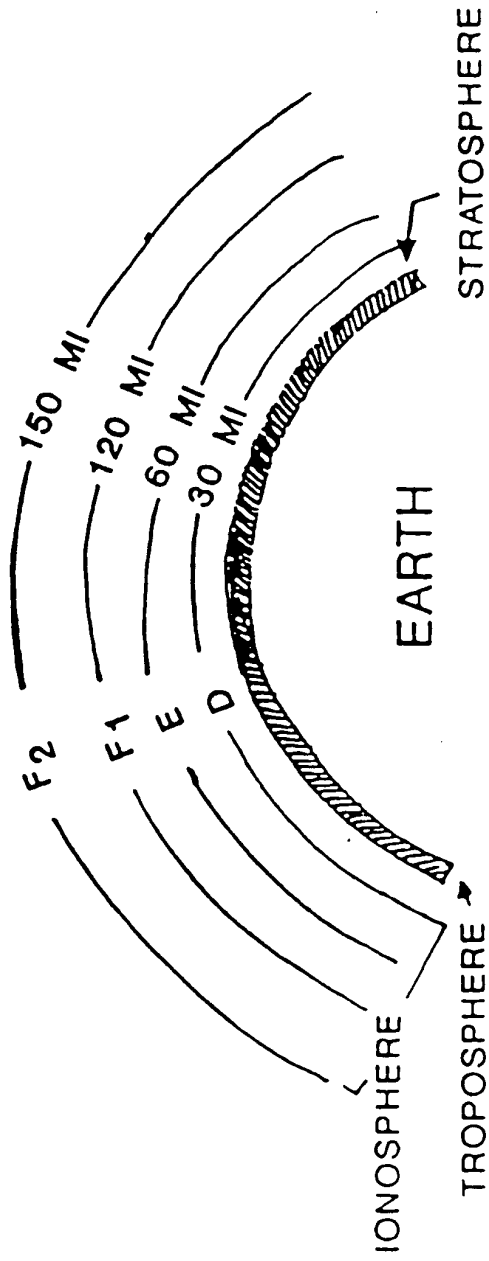
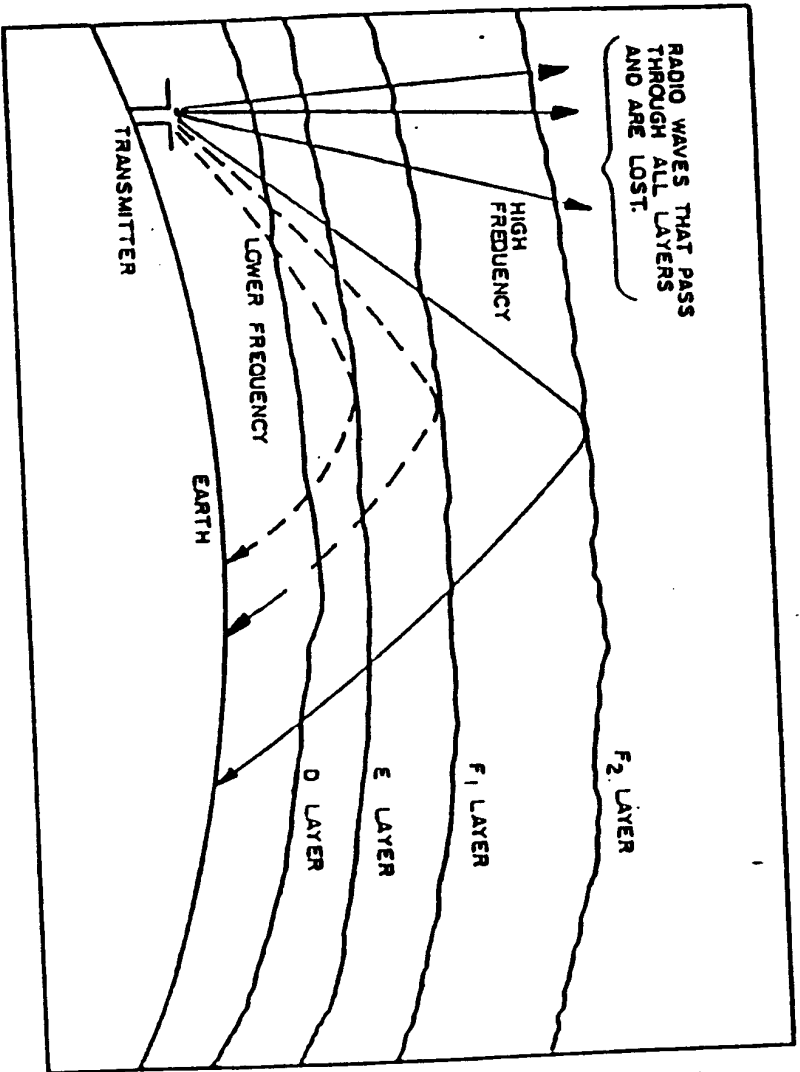

Figure 4
Figure 5. Skywave transmission paths.
**THE IONOSPHERE:** The ionosphere is an electrically charged region of atmospheric gases that surround the Earth. Ionization (electric charge) happens when solar radiation bombards atmospheric gas molecules and forces them to detach electrons leaving the gas molecule with a positive electrical charge called an ion and leaving free electrons in the atmosphere. Since positive electrical charges repel each other the gas ions tend to "bunch" in distinct "layers" of ions at heights of between 30 and 300 miles shown in fig 4. These charged areas will reflect radio signals back to earth if they strike the ionosphere at particular angles using particular frequency bands. Radio engineers have labeled these layers the D, E, F1 and F2 layers (see fig 4). 3 factors determine whether a radio signal will be reflected back to earth and can be used by Brigade THFRS communications systems. They are (1) the higher the radio frequency the more likely the signal will penetrate the ionosphere rather than be reflected by it, (2) the current ion density determined by the amount of sun light (time of day, season, solar activity) at the time communications is desired, and (3) the angle at which the radio wave contacts the ionosphere. See figure 5 for details. Note - that at any time of the day, year, or solar activity (sunspot) cycle there is always available a band of radio frequencies that can be reflected off the ionosphere and will support HF communications. The Automatic Link Establishment (ALE) feature of THFRS will find these frequencies for the operator from the list of authorized frequencies in the radio database. Signals on these frequencies can be used for Brigade tactical HF communications over distances of hundreds of miles unless very unusual and rare solar activity is occurring. Also note that the angle at which the wave front contacts the reflecting layer is determined by the radios antenna system. Low angles of radiation are produced by the OE-5 05 and AT- IO 1 1 vertical whips and high angle radiation is produced by bending the whips into the horizontal position with the whip tilt adaptor or by using the RF- 1 912 or RF- 1 941 wire dipole antennas 30 feet OR LESS above ground.
**MAXIMUM USEABLE FREQUENCY (MUF)- LOWEST USEABLE FREQUENCY (LUF).** Each layer of the ionosphere has a frequency that is the highest that the layer will reflect. The exact frequency is determined by the amount of ions in the layer. As seen in fig 5. the lower frequencies are reflected by the lower layers while the higher frequencies penetrate the lower layers and are reflected back by the higher layers. To cover the largest tactical area of operations possible the highest frequency that will reflect should be used since the higher the reflecting layer the wider the area covered by the reflection (see fig 5.). Since the ionosphere is always changing a general rule when in manual operation is to select a frequency 15% lower than the actual MUF to avoid problems. This frequency is called the frequency of optimum traffic (FOT). Signals on frequencies that exceed the MUF go through the ionosphere and are lost in outer space. The MUF is also different for different angles of reflection. Signals on lower takeoff angles can utilize higher frequencies for communications because they will be reflected. The ALE mode of THFRS will automatically prevent signals with a frequency above the @ from being selected for operations. A-LE will select the best radio frequency for communications on a continuous basis if used. A limitation of HF radio is the high radio noise (static) level on HF frequencies. Radio noise comes from sources in outer space, lightning in the earth's atmosphere, and man-made sources. Noise on a particular system depends mainly on location and season. For each situation there is a frequency (LUF) below which there is to
The heart of THFRS is the 10 pound 10.5 x 3.5 x 13.2inch AN/PRC-150(C) man-pack radio (see fig 5). This radio and all ancillaries needed for man-pack operations are provided to all configurations being built. This was done so that each THFRS user will have a "jerk and run" HF radio capability to use in the event that they must separate from their wheeled, armored, or base-station platform. 2 BB-5590, BB-590 or BB-390 standard batteries power the software controlled manpack radio. This provides an output power level of 1, 5, or 20 watts of AM single sideband (SSB) power across the 1.6 - 30 MHz spectrum. The radio is also capable of providing 1, 5, or 10 watts of FM signal on frequencies between 30 and 60 MHz. The waveform in this frequency range is either 16kbs wideband FSK for data transmission or 16kbs digital voice that makes the radio interoperable with SINCGARS in the non-hopping, encrypted or plain text digital voice mode. This mode is a very useful feature when tactical necessity dictates the need for communications with units who have no HF communications. Standard analog voice FM mode with VINSON COMSEC is also provided which will allow interoperability with organizations still equipped with pre-SINCGARS tactical FM radios. This includes many of our worldwide potential allies and our own reserve components that still have large quantities of this type of equipment.